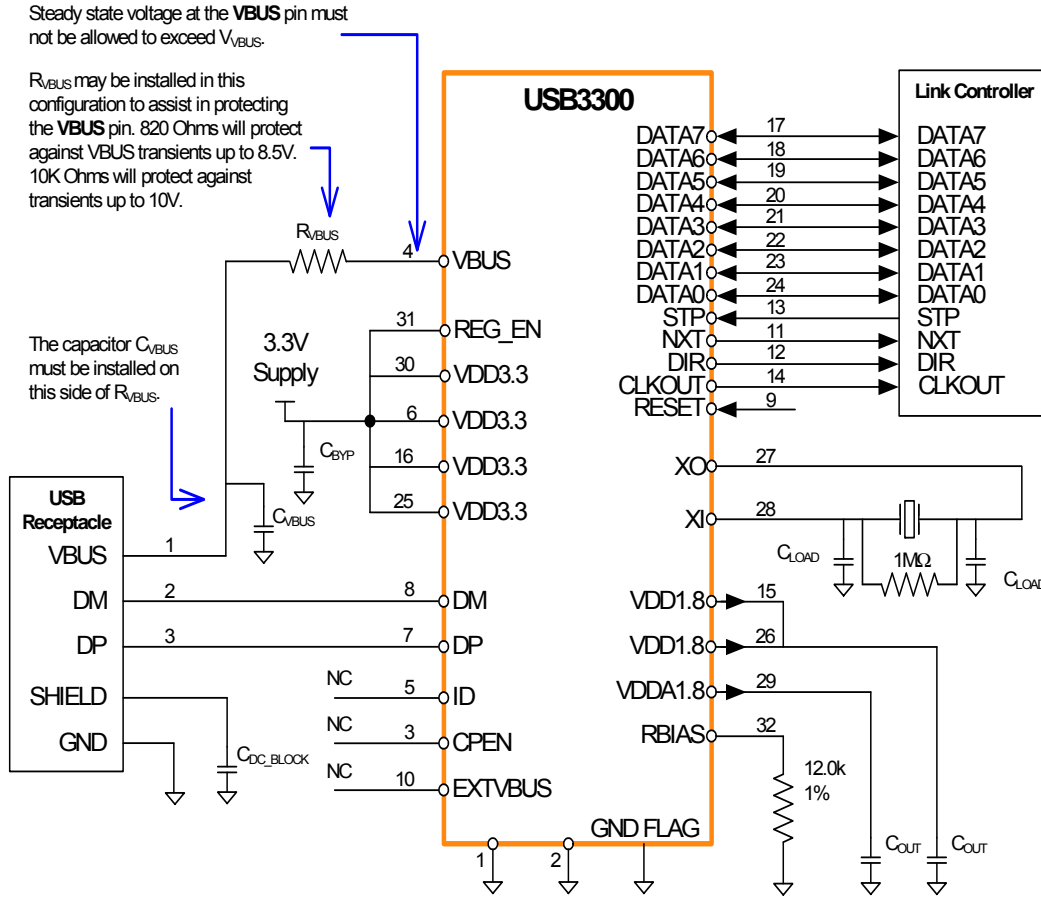

Figure 7.1 USB3300 Application Diagram (Peripheral)
The USB3300 can use either a crystal or an external clock oscillator for the 24MHz reference. The crystal is connected to the XI and XO pins as shown in the application diagram, Figure 7.1. If a clock oscillator is used the clock should be connected to the XI input and the XO pin left floating. When an external clock is used the XI pin is designed to be driven with a 0 to 3.3 volt signal. When using an external clock the user needs to take care to ensure the external clock source is clean enough to not corrupt the high speed eye performance.
**Note:** The specific capacitor recommendations for each pin are detailed in Table 3.1, "USB3300 Pin Definitions 32-Pin QFN Package", and shown in Figure 7.1 USB3300 Application Diagram \(Peripheral\) on page 49. The USB3300 regulators are designed to generate a 1.8 volt supply for the USB3300 only. Using the regulators to provide current for other circuits is not recommended and SMSC does not guarantee USB performance or regulator stability.
One method of protecting the VBUS pin from excessive voltage (transients) is to place a resistor ( $R_{VBUS}$ ) in series as shown in Figure 7.1, "USB3300 Application Diagram (Peripheral)" and Figure 7.2, "USB3300 Application Diagram (Host or OTG)". The resistor provides protection against transients that exceed the value of  $V_{VBUS}$  provided in Table 4.2, "Recommended Operating Conditions". When  $R_{VBUS}$  is installed, the transient must not be allowed to exceed the value of  $V_{VBUS}$  for longer than 500  $\mu$ s.